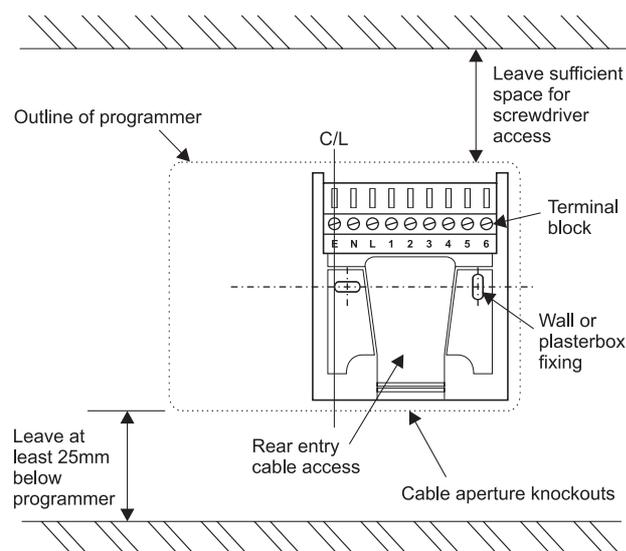

Fig. 19
- 2 When fixing the wallplate remember the connections are at the top and the vertical centre line of the unit is at the position shown (C/L) - in line with the terminal E. See Fig. 19.